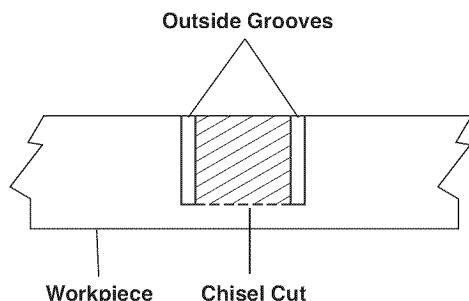

Figure 33a. Rough Cut Groove
- Use a wood chisel or make multiple passes by sliding the wood over to one side to remove the material between the outside grooves (Figure 33a).